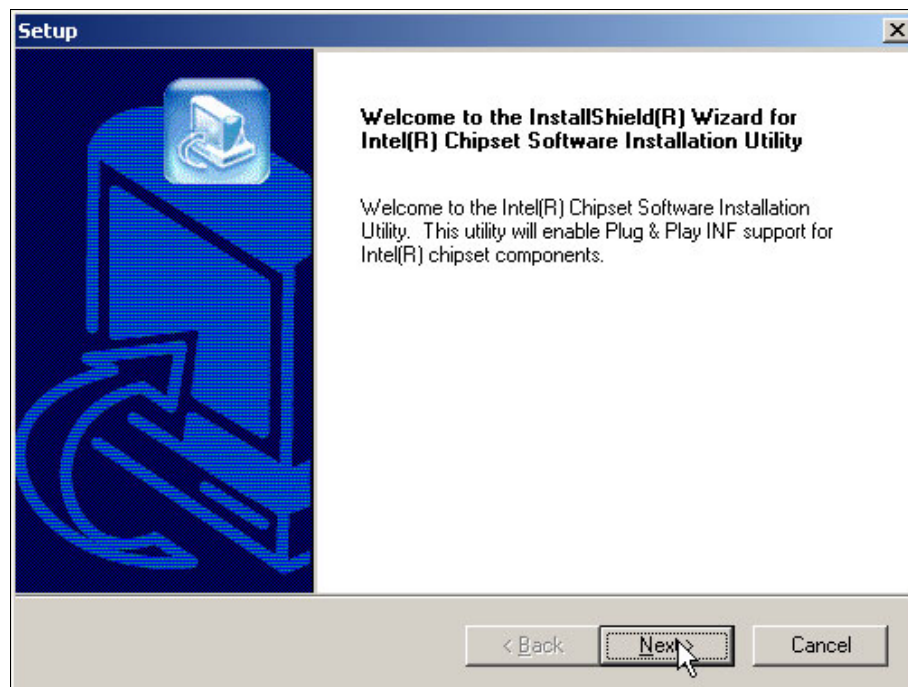

Figure 2-22 Driver setup wizard is launched
- The setup utility is launched as shown in Figure 2-22 on page 33.